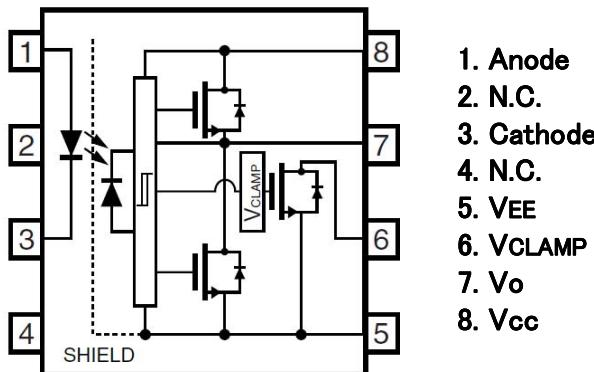

Figure 2.1 PS9332 Equivalent Circuit
The equivalent circuit of the PS9332 is shown in Figure 2.1. The PS9332 features a GaAlAs LED on the signal receiving side, and on the signal output side, a photo detector IC that combines a photo diode (PD), signal processing circuit, and a large-current output circuit along with IGBT protection circuits (active Miller clamp and UVLO). The photo detector IC is fabricated with the Bi-CMOS process proven in other Renesas Electronics IGBT-driving photocouplers, enabling both a high output current ( $I_O = 2 \text{ A MAX.}$ ) and low circuit current ( $I_{CC} = 2.5 \text{ mA MAX.}$ ), which enables high-temperature operation ( $T_A = 125^\circ\text{C MAX.}$ ).